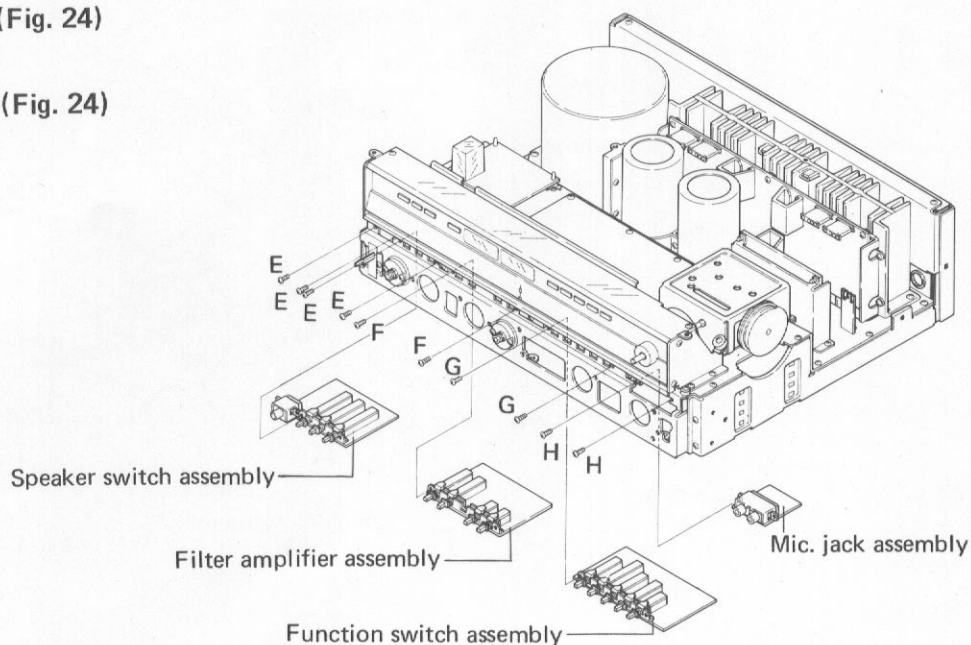

Fig. 24
**Speaker Switch Assembly (Fig. 24)**
**Filter Amplifier Assembly (Fig. 24)**
**Function Switch Assembly (Fig. 24)**
**Microphone Jack Assembly (Fig. 24)**